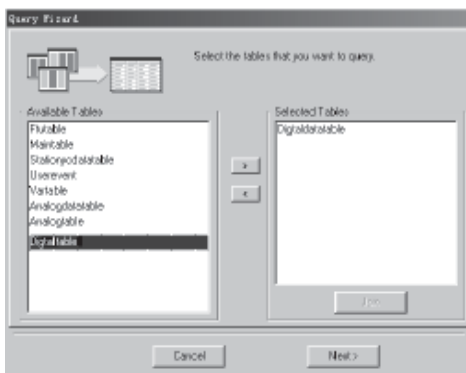

Fig. 8-5 Select the Listing Table 2
2.2 Double click the table name in Fig. 8-5. For example, Select Digitaldatatable, and it will appear in the listing table frame on the right. Then click the button **Next**.